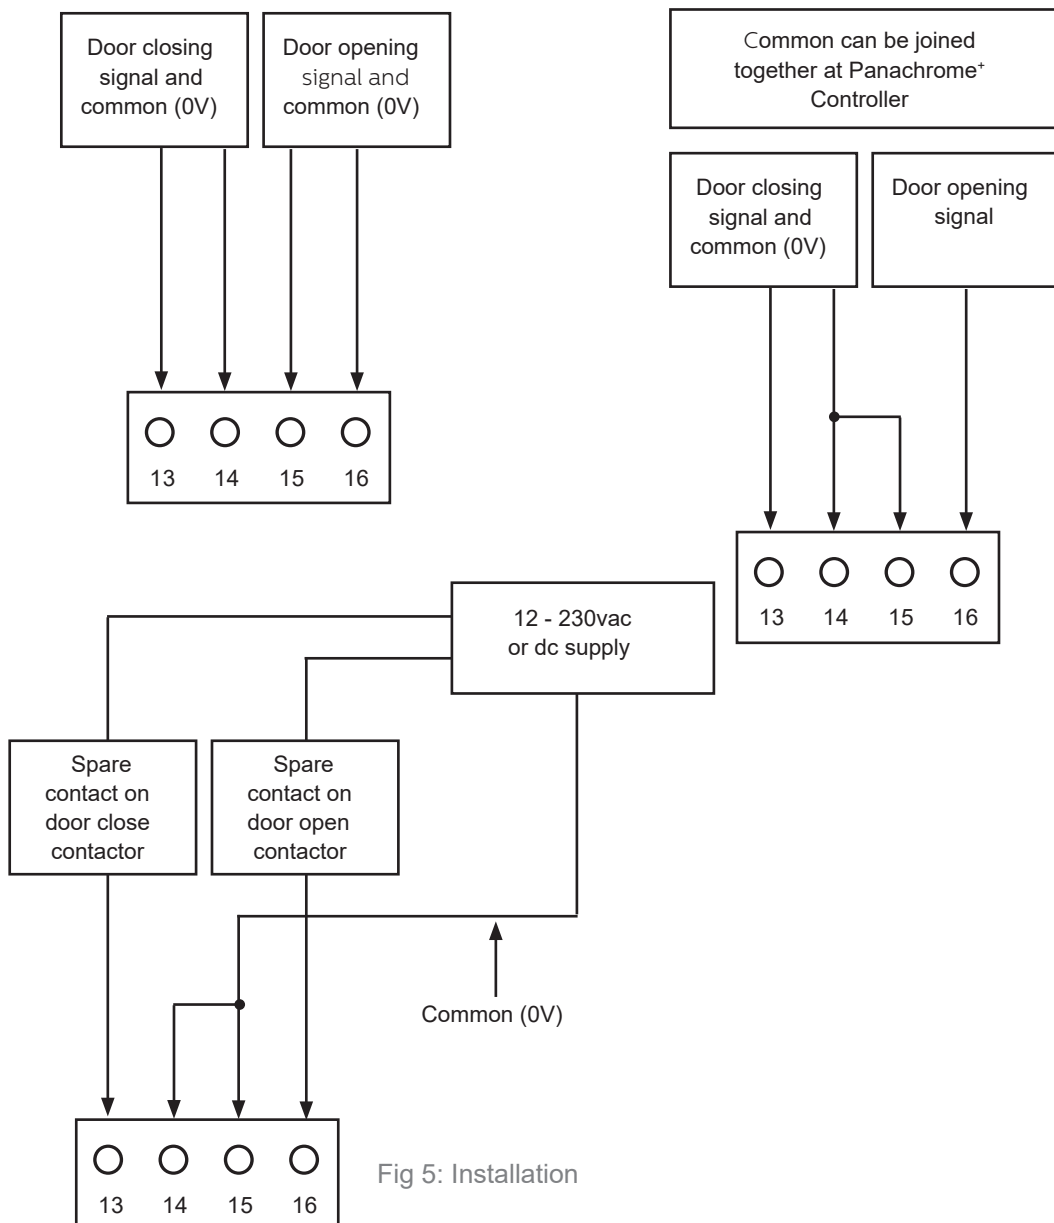

Fig 5: Installation
7. The Green and Red Indicators will be operated by software but, if required, external signalling can be used (see Table 1 and Fig 5).